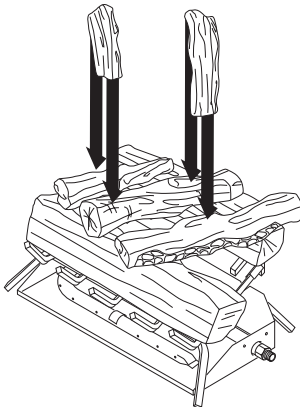

Figure 11 - Installing Top Logs
6. Place the smaller top logs onto the bottom logs (see Figure 11, page 10). Leave as much open space between logs as possible to minimize flame impingement and sooting. **Note:** Logs may chip if they are handled roughly or if hit together while being placed.